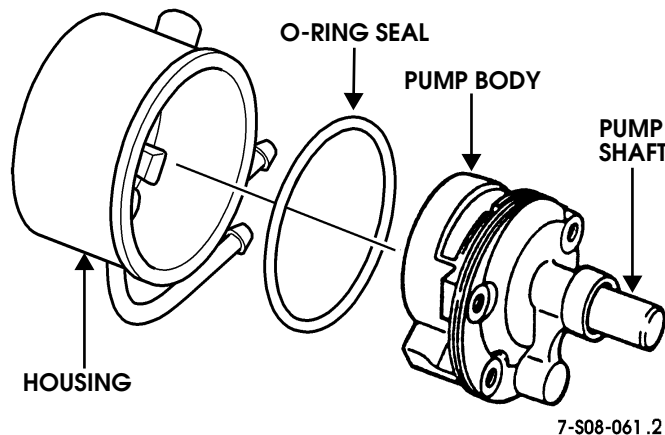

Figure 8-73: Reservoir Removal
7. Place pump body in vise (Figure 8-73).